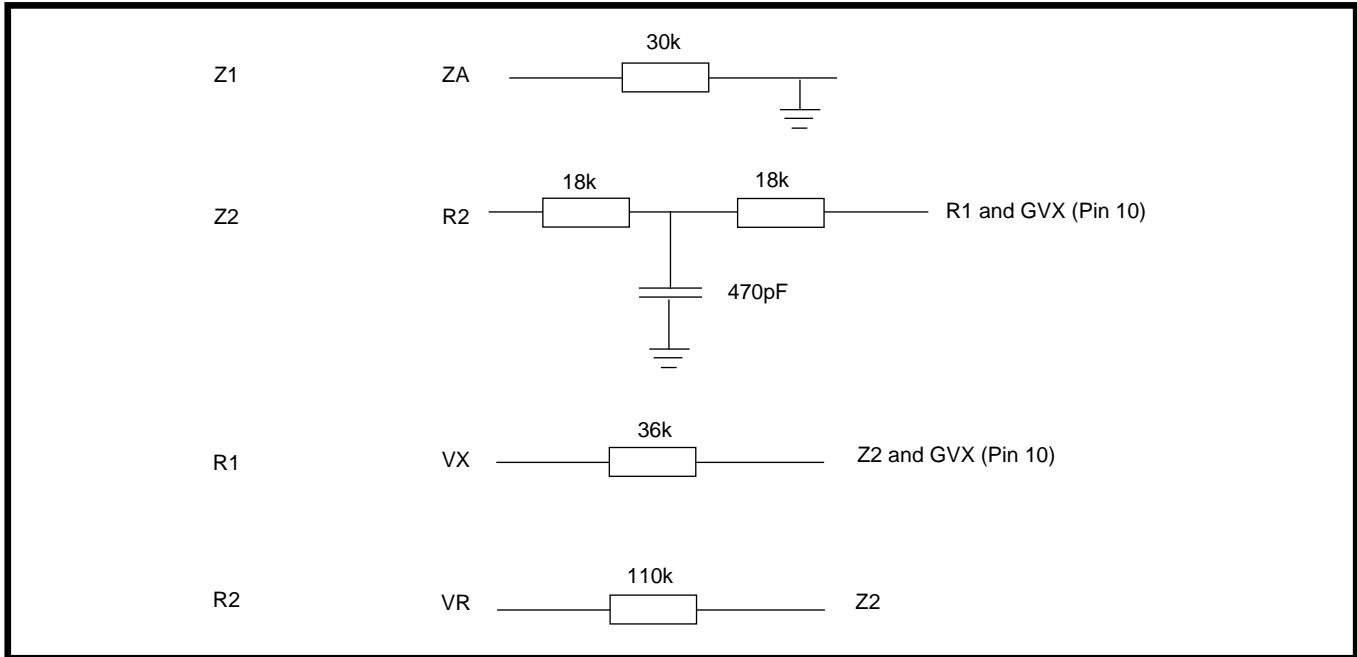

Figure 6 - Setup for 600R Line and Network Balance Impedance
- 600R as shown in Figure 6 and
Figures 6 and 7 show the configuration of the resistor networks.